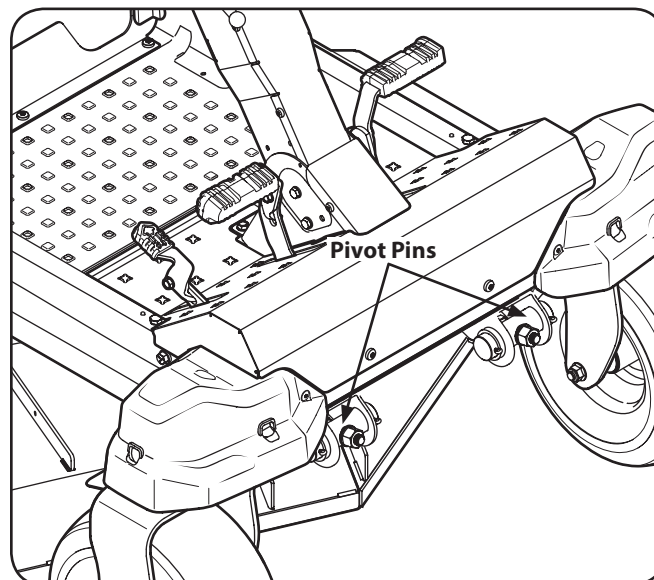

Figure 6-7
5. Using a wrench, raise the front of deck by loosening the lock nuts to the front of the pivot pin and then tighten the jam nuts on the back of the pivot pin to raise the front of the deck and secure in place. See Figure 6-7.
6. Using a wrench, lower the front of deck by loosening the jam nuts on the back of the pivot pin and then tighten the lock nut on the front of the pivot pin to lower the front of the deck and secure in place. See Figure 6-7.